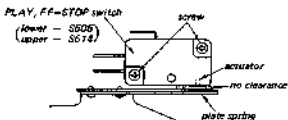

Fig. 3-6. PLAY, FF-STOP switch (S605, 614) position adjustment
- Place the unit in the FF or REW mode, to energize the brake solenoid. Check to see that the actuator of microswitch is perfectly pushed with the plate spring and also that the no clearance between the microswitch and the plate spring is obtained as shown in Fig. 3-6. If necessary, adjust the position of the micro-switch by loosening the two switch holding screws.